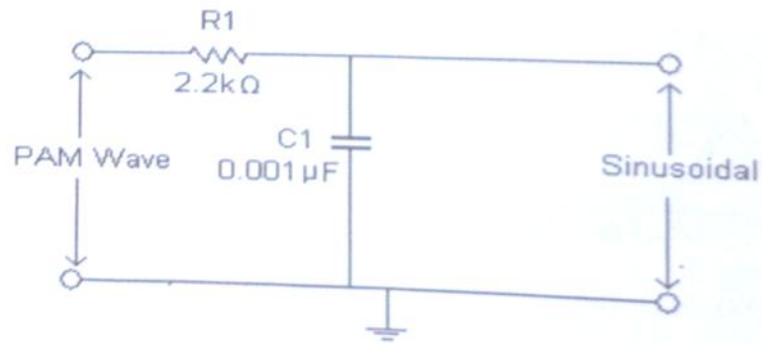

Fig: 4. Demodulation Circuit
5. Feed the modulated wave to the low pass filter as in fig 4.